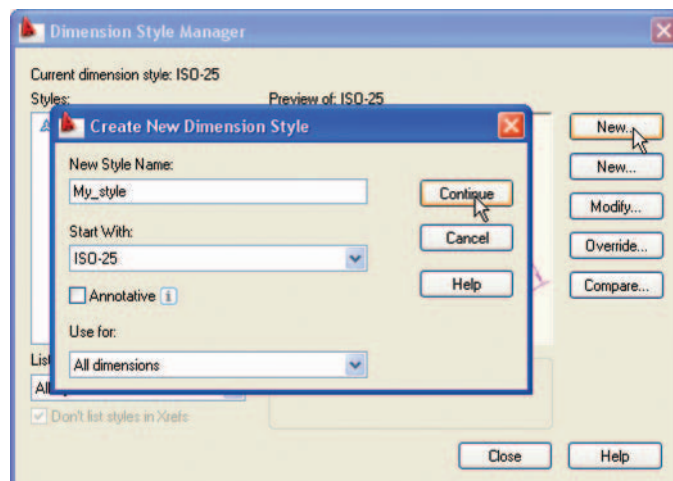
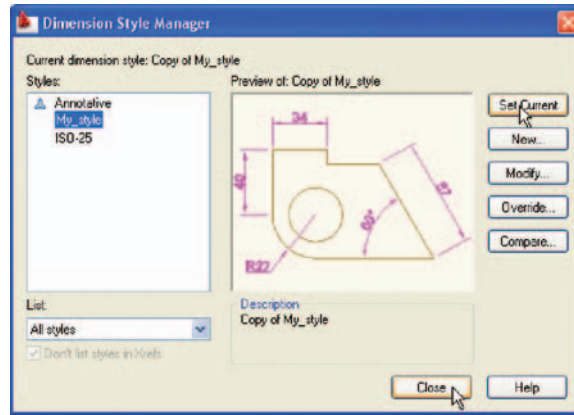

Fig. 4.13 The **Create New Dimension Style** dialog
Fig. 4.14 The **Dimension Style Manager** reappears. *Click* the **Set Current** and **Close** buttons
8. The **Dimension Styles Manager** dialog reappears showing dimensions, as they will appear in a drawing, in the **Preview of my-style** box. *Click* the **New...** button. The **Create New Dimension Style** dialog appears (Fig. 4.13). *Enter a suitable name in the New style name field* – in this example this is **My-style**. *Click* the **Continue** button and the **Dimension Style Manager** appears (Fig. 4.14). This dialog now shows a preview of the **My-style** dimensions. *Click* the dialog's **Set Current** button, following by another *click* on the **Close** button (see Fig. 4.14).